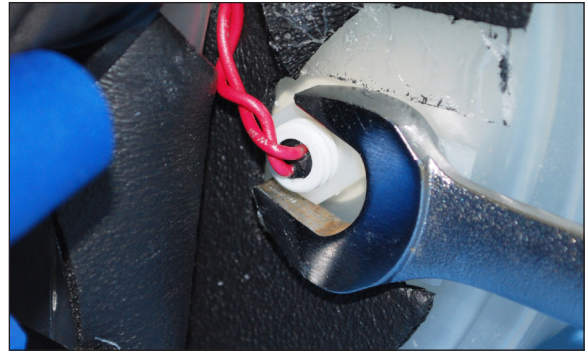

Figure 52 - Step 4 Secure float switch mounting nut
4. Secure the float switch in place beneath the reservoir with the accompanying nut (Figure 52).